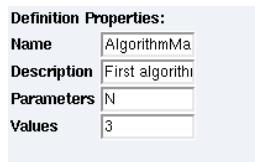

Figure 4.1: **Parameters Values**
- type `N` in the **Parameters** textfield of the **Definition Properties** of the main algorithm and `3` in the **Values** textfield (*cf.* figure 4.1). Notice that this value is kept as long as the algorithm remains the main one.